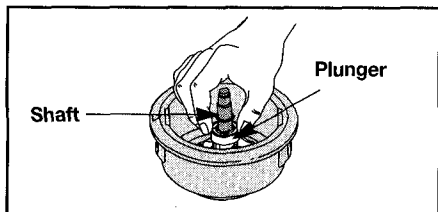

Fig. 27
4. Clean the shaft and the inner surface of the outer spool. To clean the shaft underneath the plunger, press down on the plunger (Fig. 27). Remove any dirt and/or debris from the shaft.